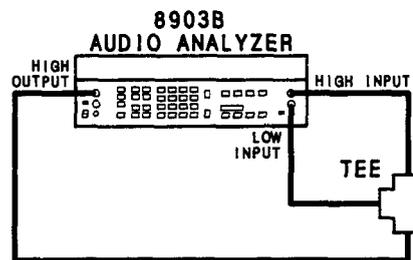

Figure 5-2. Common-Mode Rejection Adjustment Test Setup
2. Connect the HIGH OUTPUT to the HIGH INPUT through the tee as shown in Figure 5-2.
3. Adjust A2R43 (CM) for the minimum level on the right display, but less than 0.2 mV.